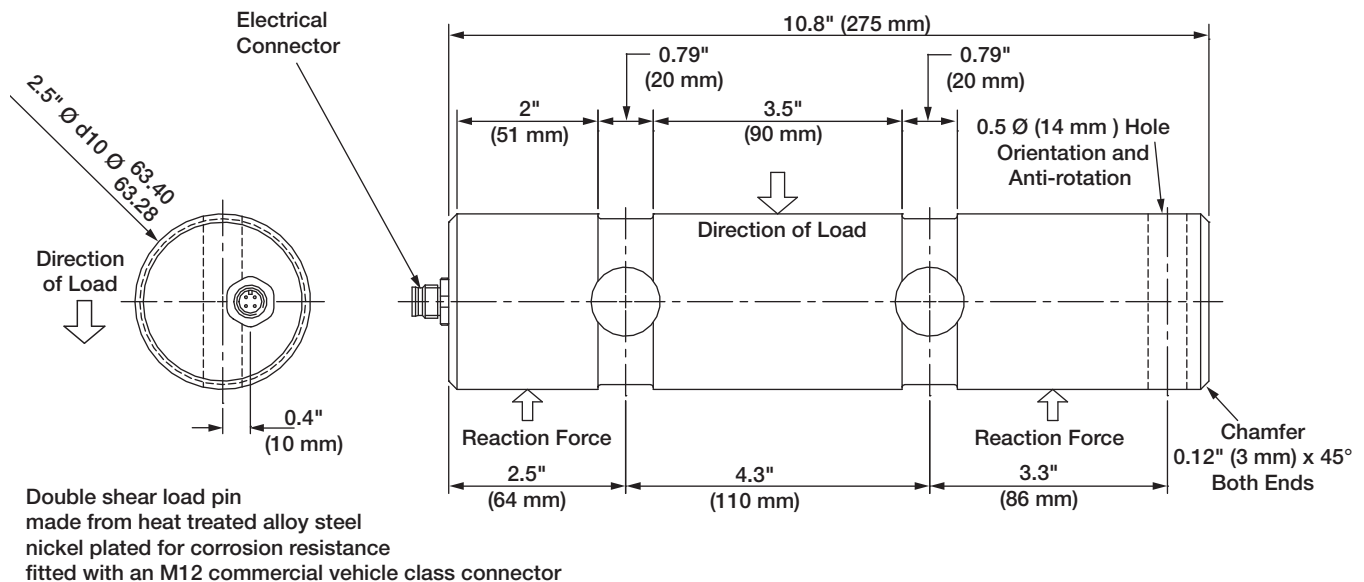

Figure 2-3. 2.5 Inch Diameter Load Pin (PN 131204)
- 2.5 inch diameter (see Figure 2-3) Roll Off